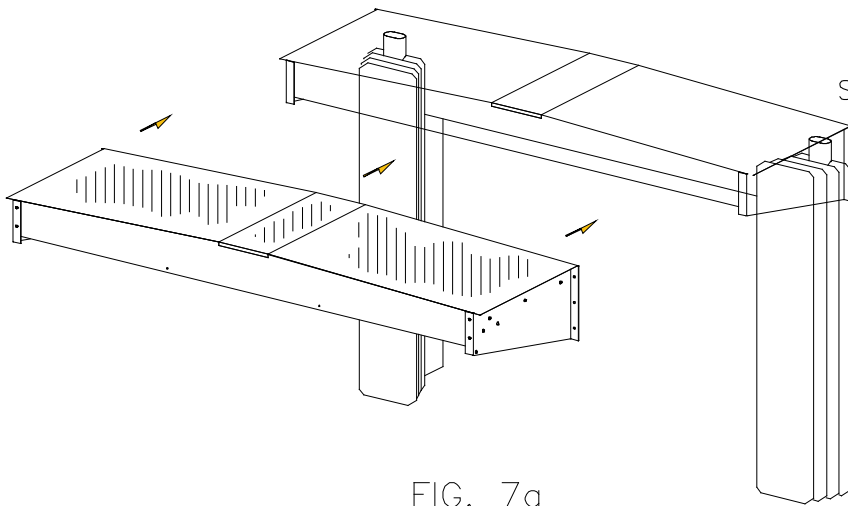

FIG. 7a
- Place head frame on outside of left and right vertical air bags (Fig. 7a).
- Position head frame flush to wall (Fig. 7a).